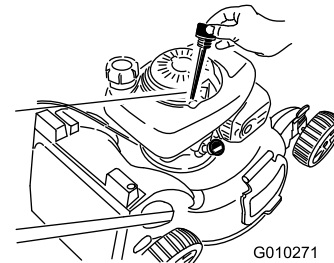

Figure 44
3. Remove the dipstick by rotating the cap counterclockwise and pulling it out (Figure 44).
4. Tip the machine onto its side (so that the air filter is up) to drain the used oil from the oil-fill tube (Figure 44).